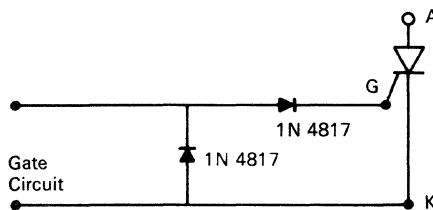

Figure 8. Protected Gate Cathode
- The gate drive circuitry should have a 1 to 2A average 100V diode in series with the gate and across the gate cathode terminals as shown in Figure 8. These will eliminate two possible failure modes of an SCR. The diodes in series with the gate will prevent negative gate current flow while the diode across the gate cathode limits the reverse gate voltage,  $V_{GRM}$ , to  $\sim 2V$  by diode clamping.